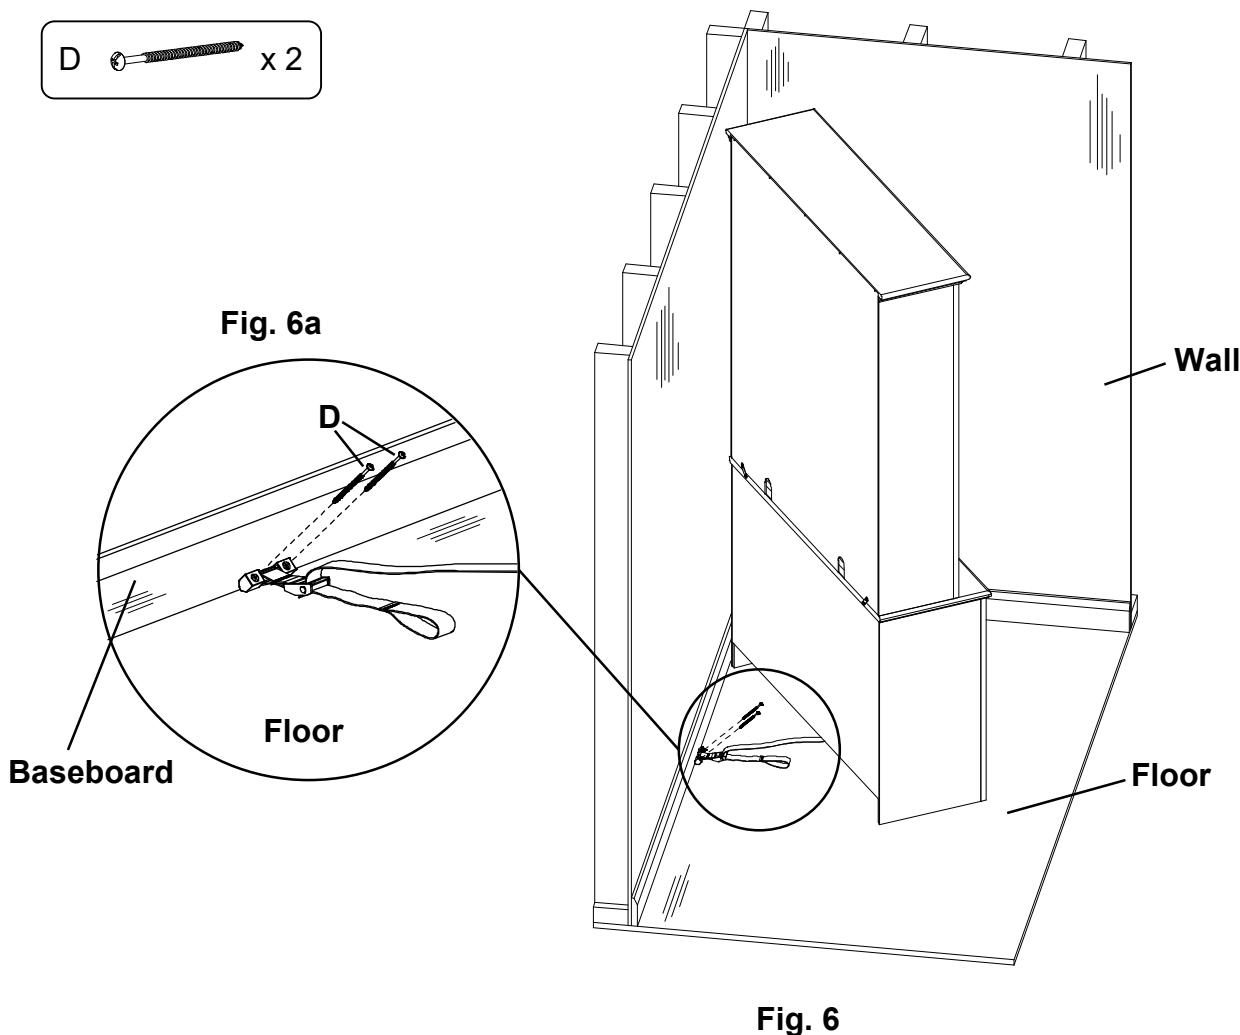

Fig. 6
6. Decide where you want to place the bookcase in your room. Mark the baseboard with a pencil mark directly behind the location where the tipping restraint is attached to your item. Move the item away from the wall far enough to allow you to access the spot where the baseboard meets the floor. Position the straps and Plastic Bracket (B) as shown in Figures 6 and 6a with the angled corners of the Plastic Bracket (B) firmly placed against the seam of the baseboard and floor. Attach by driving #8 x 3" Pan Head Screws (D) through the holes in the Plastic Bracket (B) into the seam below the baseboard where it meets the floor. See Figures 6 and 6a.